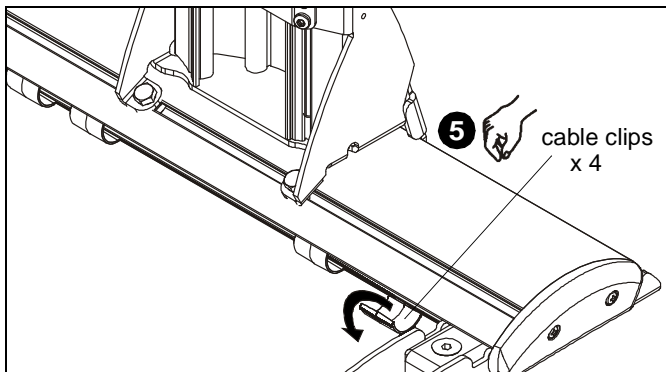

Figure 56
5. Open cable clips along bottom edge of wall bracket. (See Figure 56)